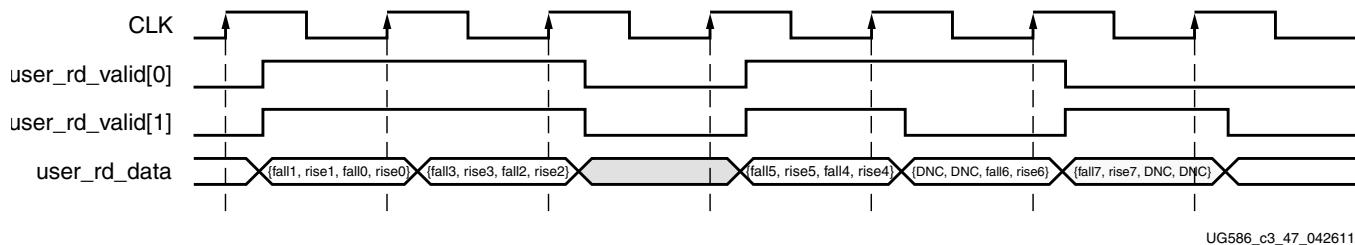

Figure 3-28: Client Interface Protocol Read Data
When a read command is issued some time later (based on the configuration and latency of the system), the `user_rd_valid[0]` signal is asserted, indicating that `user_rd_data` is now valid, while `user_rd_valid[1]` is asserted indicating that `user_rd_data` is valid, as shown in Figure 3-28. The read data should be sampled on the same cycle that `user_rd_valid[0]` and `user_rd_valid[1]` are asserted because the core does not buffer returning data. This functionality can be added in by you, if desired.
1. Shown in Figure 3-28.